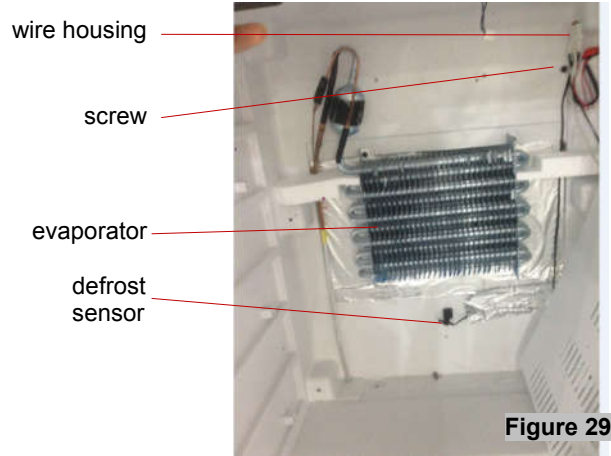

Figure 29
2. Loosen 1 screw to replace the sensor & fan. (figure 29)